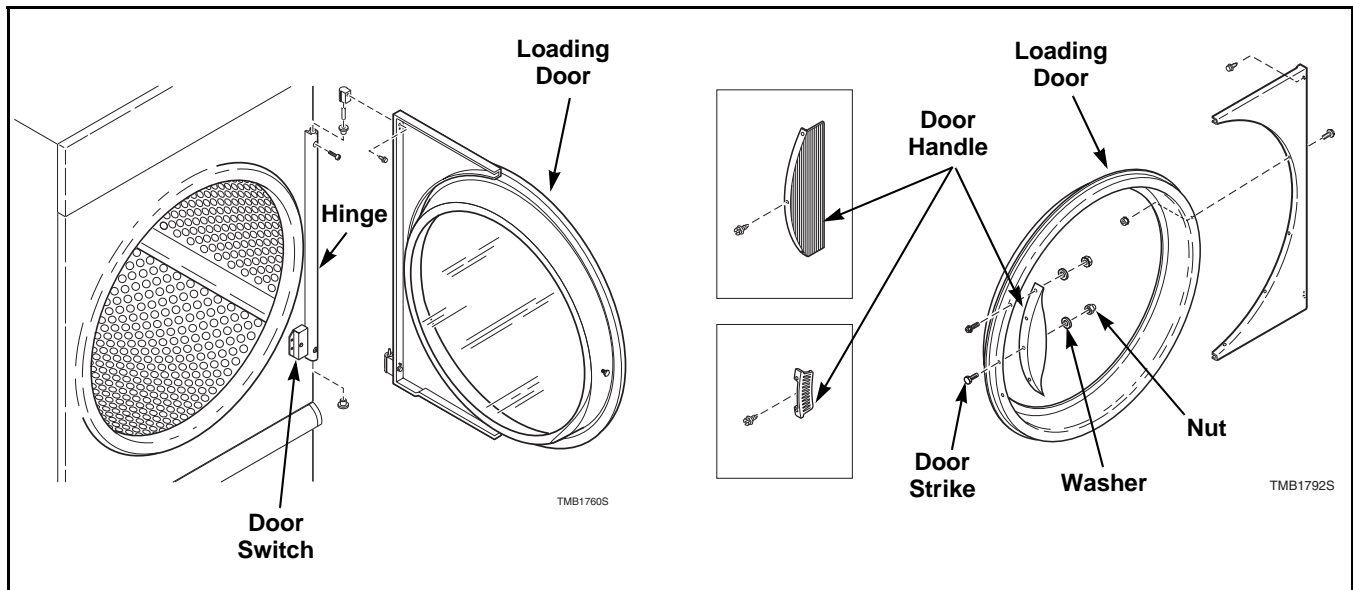

Figure 5
Refer to *Figure 5*.
- h. While supporting door, remove two screws from hinge cam at top of door and slide door out of the bottom hinge. Refer to *Figure 5*.